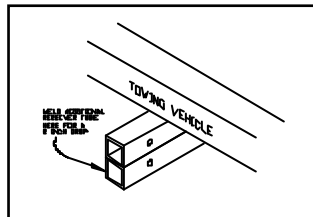
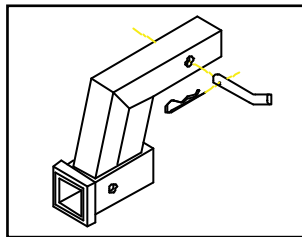

Figure 1
Figure 2
There are several options available if you need to adjust the receiver tube height. A two (2) inch drop can be achieved by welding another receiver tube under the existing receiver tube. (Figure 1) A six (6) inch drop receiver is available that pins into the existing receiver. (Figure 2)